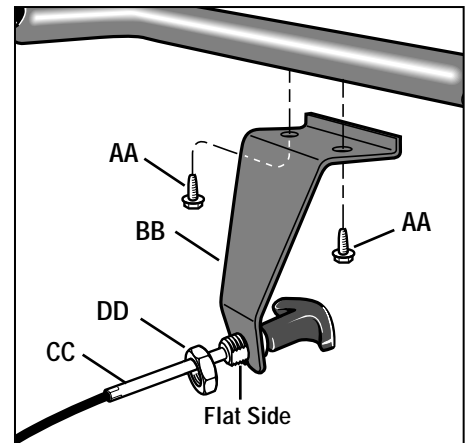
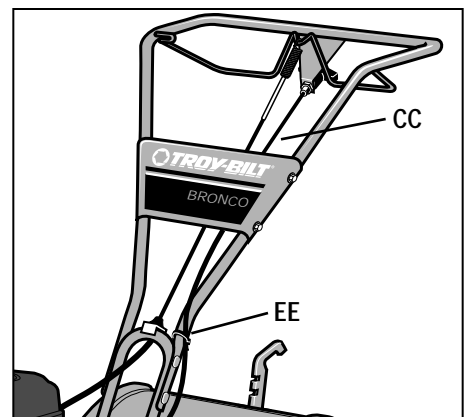

Fig. 2-8: Install reverse cable bracket and reverse clutch cable.
Fig. 2-9: Route reverse clutch cable (CC) as shown. Attach with cable tie (EE).
1. Unwrap the reverse clutch cable (CC, Fig. 2-8 and Fig. 2-9) from its shipping position and route it up to the handlebar. Be sure that the cable is routed beneath the Forward Clutch Bail.
2. Remove the two self-tapping screws (AA, Fig. 2-8) from the handlebars, position the reverse cable mounting bracket (BB) as shown, and reinstall the two screws.
3. Insert the cable (CC, Fig. 2-8) through the slot in the cable bracket and position the flat side of the threaded assembly next to the flat side of the hole. Slide the hex nut (DD) up the cable and tighten it securely.
4. Fasten the reverse clutch cable to the left side handlebar with a cable tie (EE, Fig. 2-9).